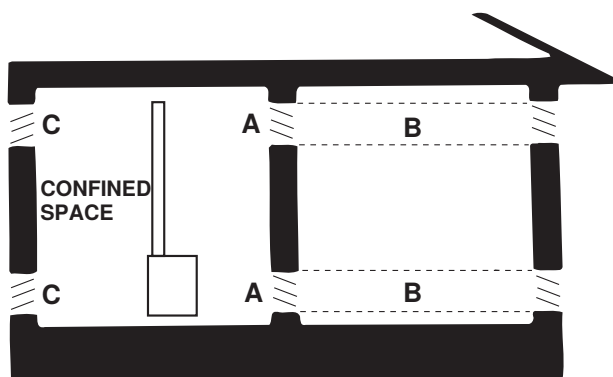

Figure 4. Confined Space Combustion Air Openings (Refer to Table 6)
Standard units are designed to take combustion air from the space in which the unit is installed and are not designed for connection to outside combustion air intake ducts. Standard units must be supplied with the air that enters into the combustion process and is then vented to the outdoors. Sufficient air must enter the equipment location to replace that which is exhausted through the heater vent system. Under all conditions, enough air must be provided to ensure that there will not be a negative pressure condition within the equipment room or space. Requirements for combustion air and ventilation air depend upon whether the unit is located in a confined or unconfined space. A **confined** space is defined as a space whose volume is <50 cubic feet per 1,000 BTU/h of the installed appliance input rating. An **unconfined** space is defined as a space whose volume is ≥50 cubic feet per 1,000 BTU/h of the installed appliance input rating. For confined space installation of standard units, provide openings (depending on the combustion air source) near the floor and ceiling for ventilation and air for combustion, as shown in Figure 4 and as listed in Table 6.
*See Figure 4.